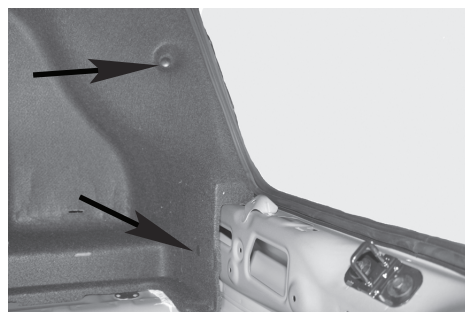

Figure 2
3. On both sides of vehicle use a pair of pliers to remove 2 push pins located on felt trunk liner shown in **Figure 2**.